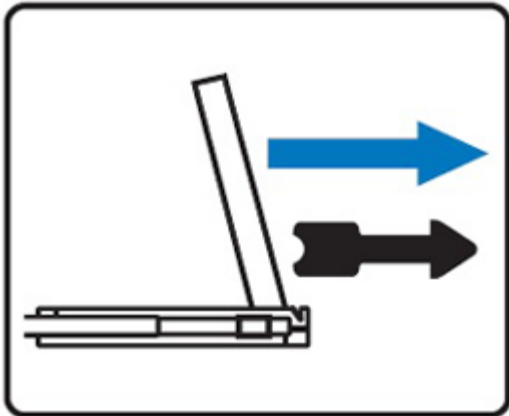

Figure 8.
- Pull and hold the black arrow button on either side of the LCD drawer to unlock. (shown in Figure 8).